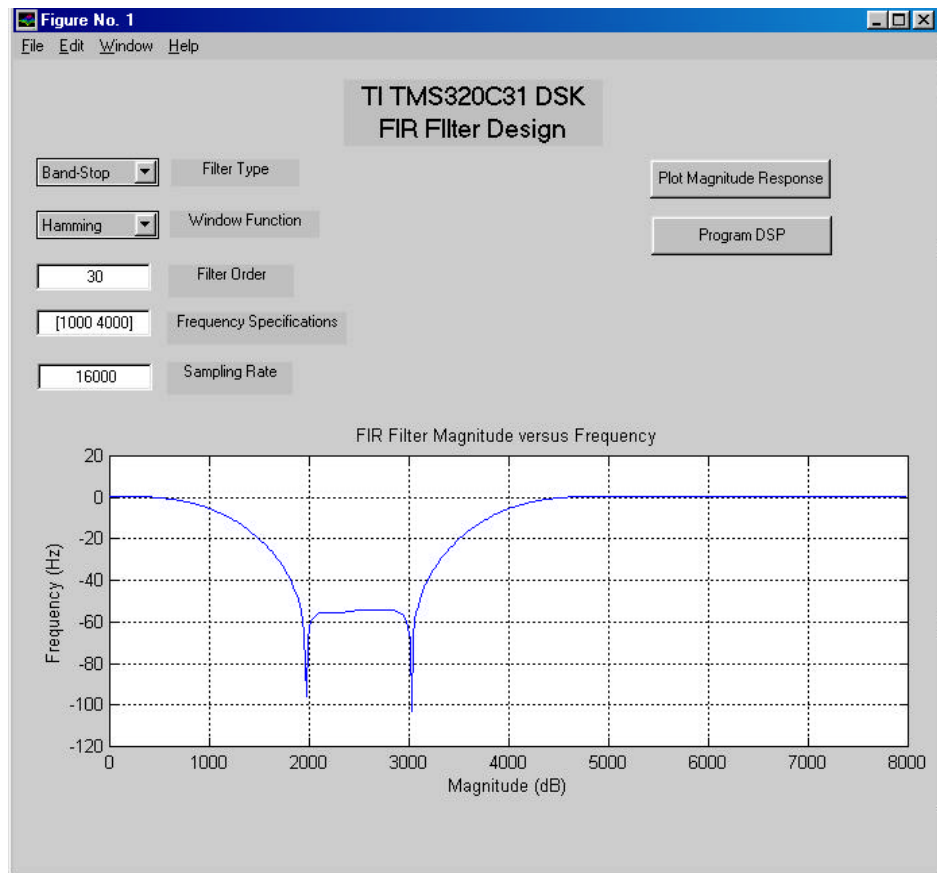

Figure 3: Completed FIR Graphical User Interface
Step 5: Edit the String field of the Pushbutton boxes to match that of the final version of the Matlab/DSK GUI shown in Figure 3. Also edit the Callback field for the appropriate pushbutton box to read “fir_gui_action plot” and “fir_gui_action program”. The idea is that upon pushing the “Plot Magnitude Response” pushbutton or the “Program DSP” button, the Matlab m-file called fir_gui_action will read the appropriate FIR filter design choices and then plot the magnitude response and/or initiate the programming of the DSK.